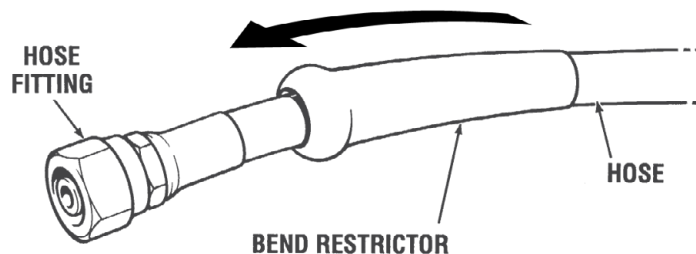

Figure 5-18.
2. Attach the hydraulic hoses to the SmartCylinder and slide the bend restrictor over the fitting as shown in figure 5-18. Torque fitting to 15 ft-lb. (20 Nm). If necessary, you can reposition the fitting on the cylinder. See section 5.5.3.